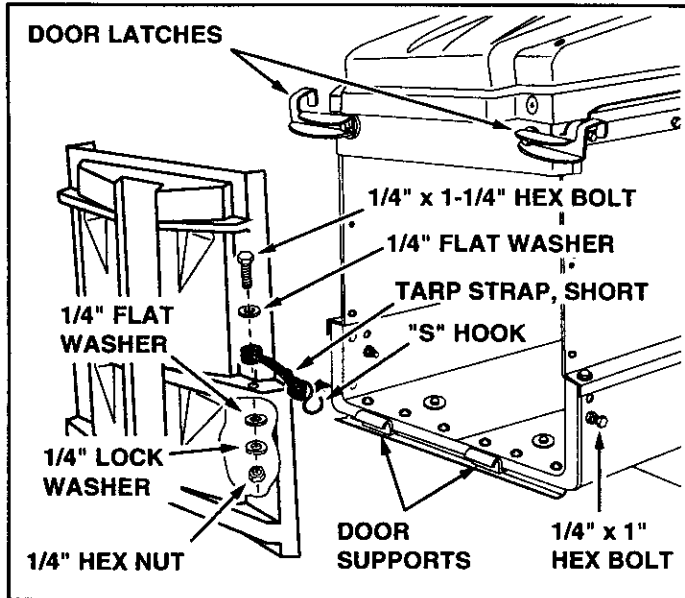

FIGURE 20
- Assemble a short tie strap to the rear door using one 1/4" x 1-1/4" hex bolt, two 1/4" flat washers, one 1/4" lock washer and one 1/4" hex nut. Assemble an "S" hook through the loose end of the strap. See figure 20. Repeat on other side of door.
- Attach the door to the rear of the cart by resting the bottom of the door on the door supports and pushing the top in against the cross brace. Swivel the door latches down until they lock into the slots in the sides of the cart. See figure 20.
- Hook both the tarp straps onto the 1/4" x 1" hex bolts in the sides of the cart. See figure 20.